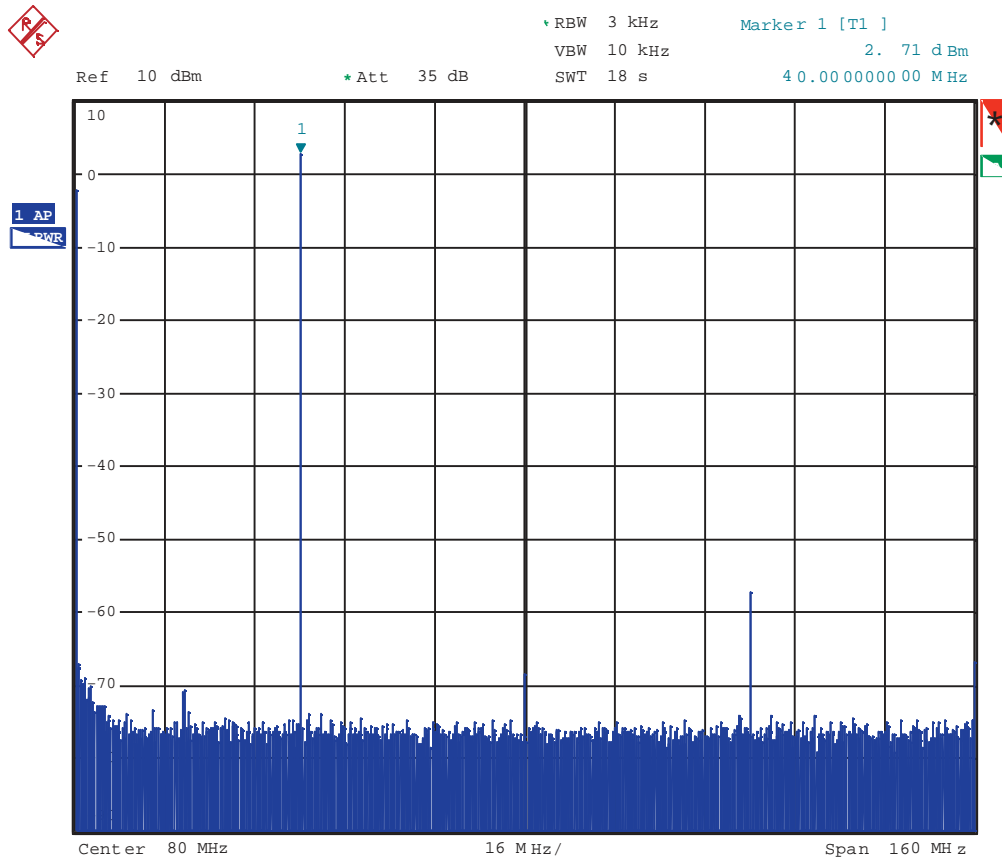

Figure 4. Spectrum with CLK2 = 320 MHz, X4 Interpolation, Single Sideband Mode and NCO Frequency = 536870912
- Reduce the CLK2 frequency to less than 320MHz. Enable the NCO and change the NCO DDS to 536870912. Doing this will generate a tone at $F_{dac}/8$. For CLK2 = 320 MHz, the tone corresponds to 40 MHz. The output spectrum should be similar to the one in Figure 4.